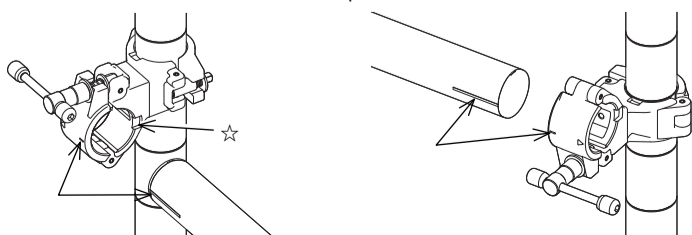

Fig. 3
- Attach the horizontal curved pipe to the vertical pipe units, one at a time. Both ends of the curved pipe have guidelines to help positioning it horizontally. Loosen the T-handle of J30TS, open the clamp, and then clamp the curved pipe. Before re-tightening the T-handle, align the line on the cover with the guideline on the pipe, as shown in fig. 3. When attaching the horizontal pipe, be careful that a vertical pipe does not tip over. We recommend stepping on the square leg pipe during assembly.
- After confirming that the assembled unit is not twisted, attach the memory locks (A13S) to the horizontal pipe. The square projection on the memory lock should fit into the notch in J30TS (indicated by ☆ in fig. 3). Then, tighten the square-headed bolt of A13S with the drum key.